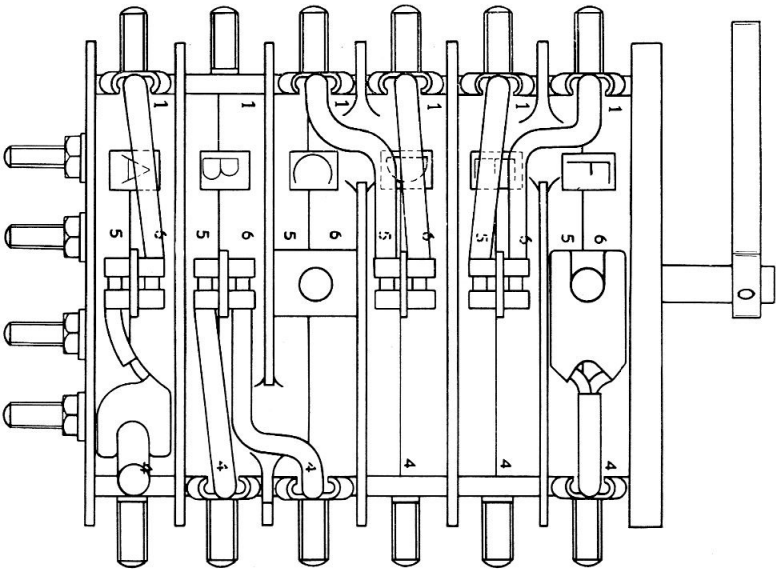
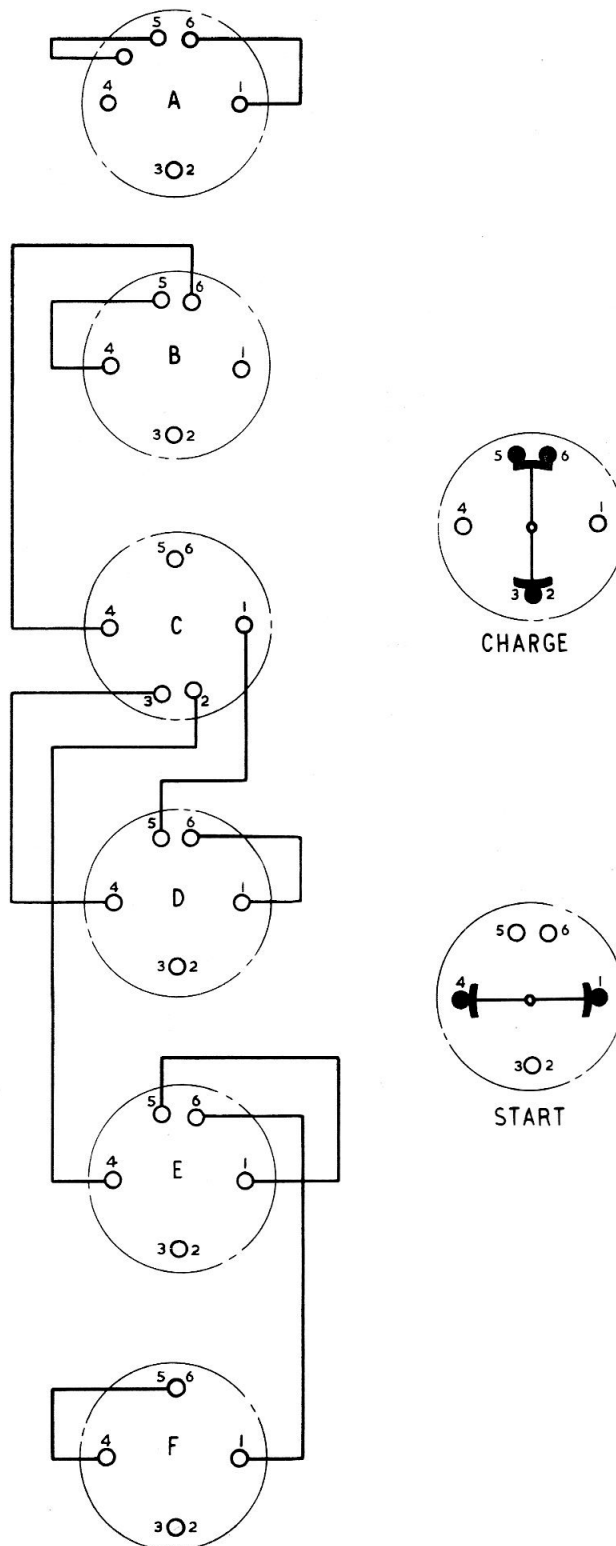

Fig. 1. Change-over switch type 6-2N3219/2
Fig. 2. Diagram of internal connections
2. The switch unit consists of six knife-switch sections assembled on a common shaft, each section being separately identified A to F (fig. 1). Fitted to one end of the shaft is a lever to operate the two positions of the switch, STARTING and CHARGING. The terminals for the electrical connections are shown in fig. 2, the terminal posts are  $\frac{5}{16}$  in. B.S.F bolts and the cables are secured to these by stiff nuts. Section A is normally connected to a relay energizing circuit on the aircraft and sections B,C,D,E and F are connected to the aircraft batteries.